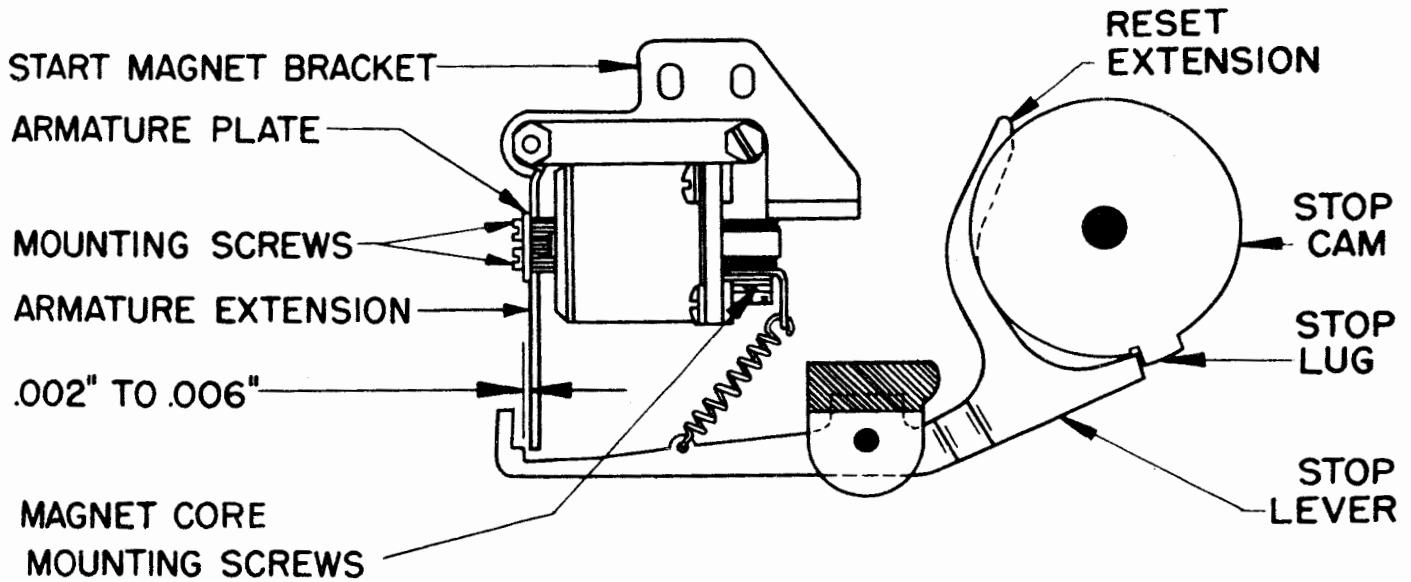

Figure 2
Note: 2.03 through 2.09 apply to transmitter-distributors equipped with the TP104669 start magnet (part of Figure 2), such as the 14AA, AB, ABM, AD, AP, AR, and AS transmitter-distributors.
2.03 Magnet Core: The armature shall strike both pole faces simultaneously and any air gap between the armature and the pole faces (when the armature is held against the pole faces) shall not exceed 0.005 inch. See Figure 2 for location of parts.
2.04 Armature Plate: The armature plate shall fully cover the pole faces. See Figure 2 for location of parts.
(a) When the armature is resting against the pole pieces and the armature extension is resting on the bottom of the unlatch step of the stoplever, there shall be minimum 0.002, maximum 0.006 inch clearance between the right edge of the unlatch step and the left edge of the armature extension at the closest point. (See Figure 2.)
With the armature in the latched position, the rear edge of the stoplever shall be flush with, or not more than 0.010 inch in front of, the rear edge of the stop lug. See Figure 2 for location of parts.